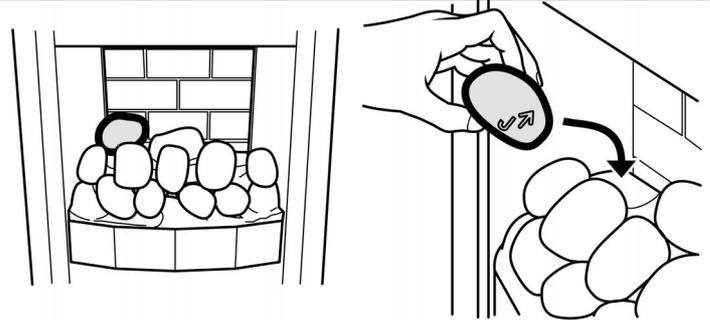

Figure 30.
13. Hold pebble 'J' upright with the arrow pointing to the top. Place pebble 'J' on top of the base pebble rear. (See figure 30)